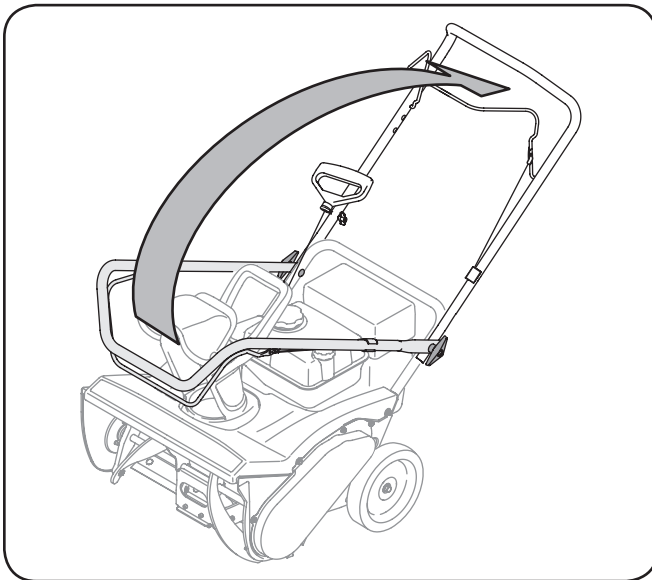

Figure 3-1
1. Pivot the upper handle into the operating position making sure not to pinch the cable in the process, as illustrated in Fig. 3-1 until it clicks into place.